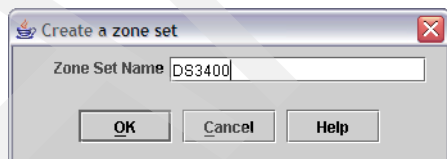

Figure 24-5 Create a zone set
2. Select **Edit** → **Create Zone Set** from the menu bar. The Create Zone Set window appears (Figure 24-5). Enter a name for the new zone set and click **OK**.